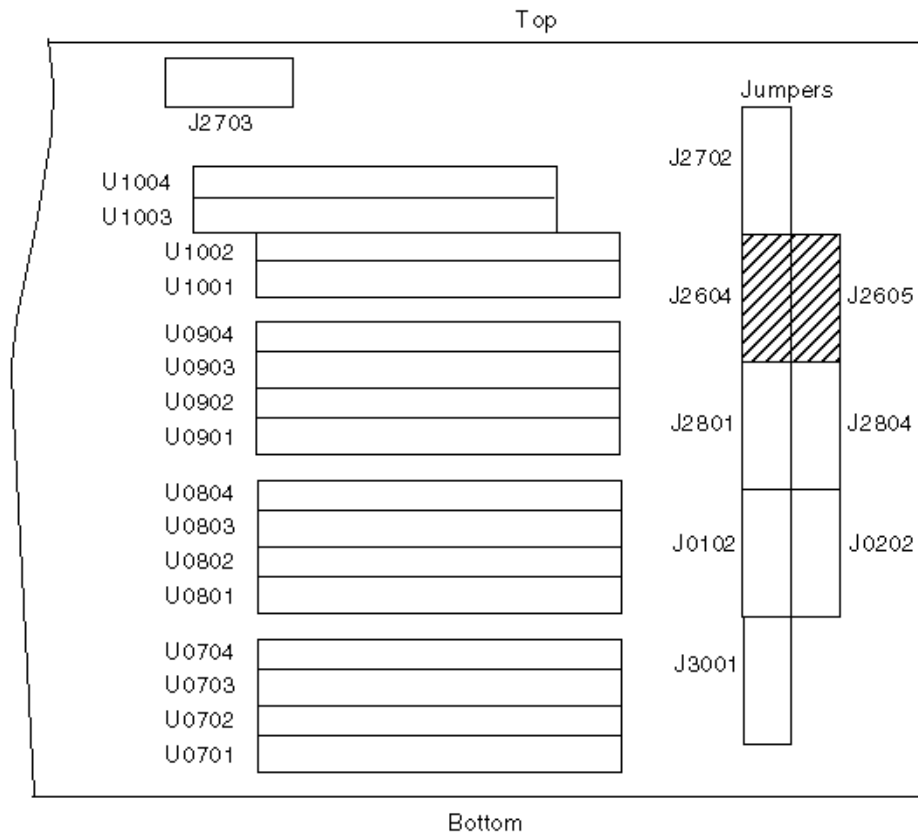

Figure 10-9 Location of the Motherboard Serial Port Jumpers
1. Using long-nose pliers, set the motherboard serial port jumpers J2604 and J2605 (Table 10-2 and Figure 10-9).